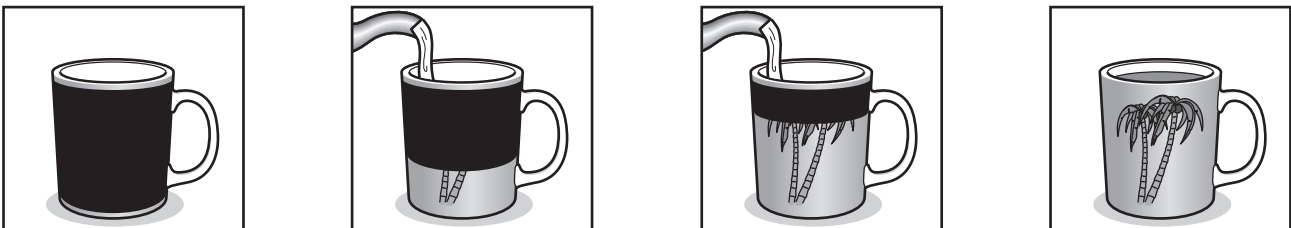

Fig. 9.1
- 9 Fig. 9.1 shows views of a coffee mug. When hot liquid is added to the mug and the mug becomes warmer, a hidden image is revealed.